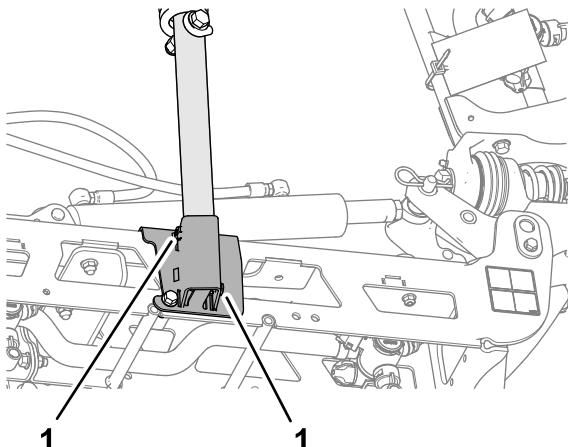

Figure 106
3. Loosen the 2 setscrews that secure the lower cradle tube (Figure 106).